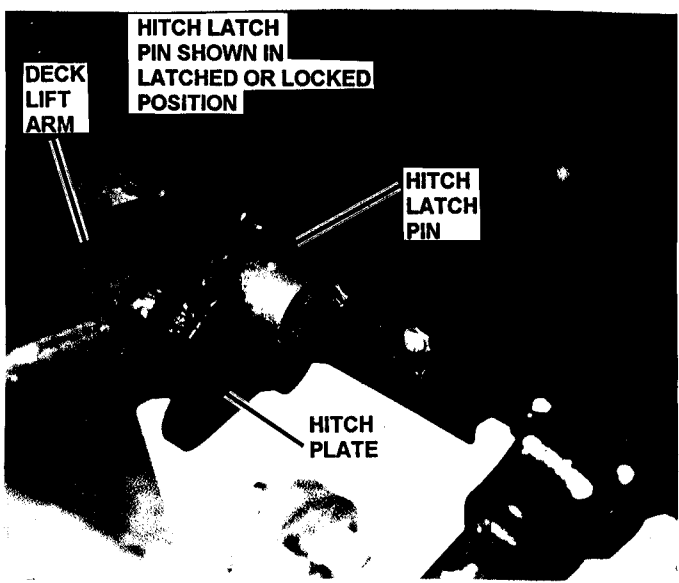

FIGURE 3.10
3. The hitch latch pins are shown in the latched position. The latched position locks the deck lift arm into position. See Figure 3.10.
4. Move deck lift switch as if to lower deck and the lift arm will move up in the hitch plates. The lift arm needs to be high enough to clear the hitch plates when power unit is driven backward away from mower deck. Refer to Figure 3.10.